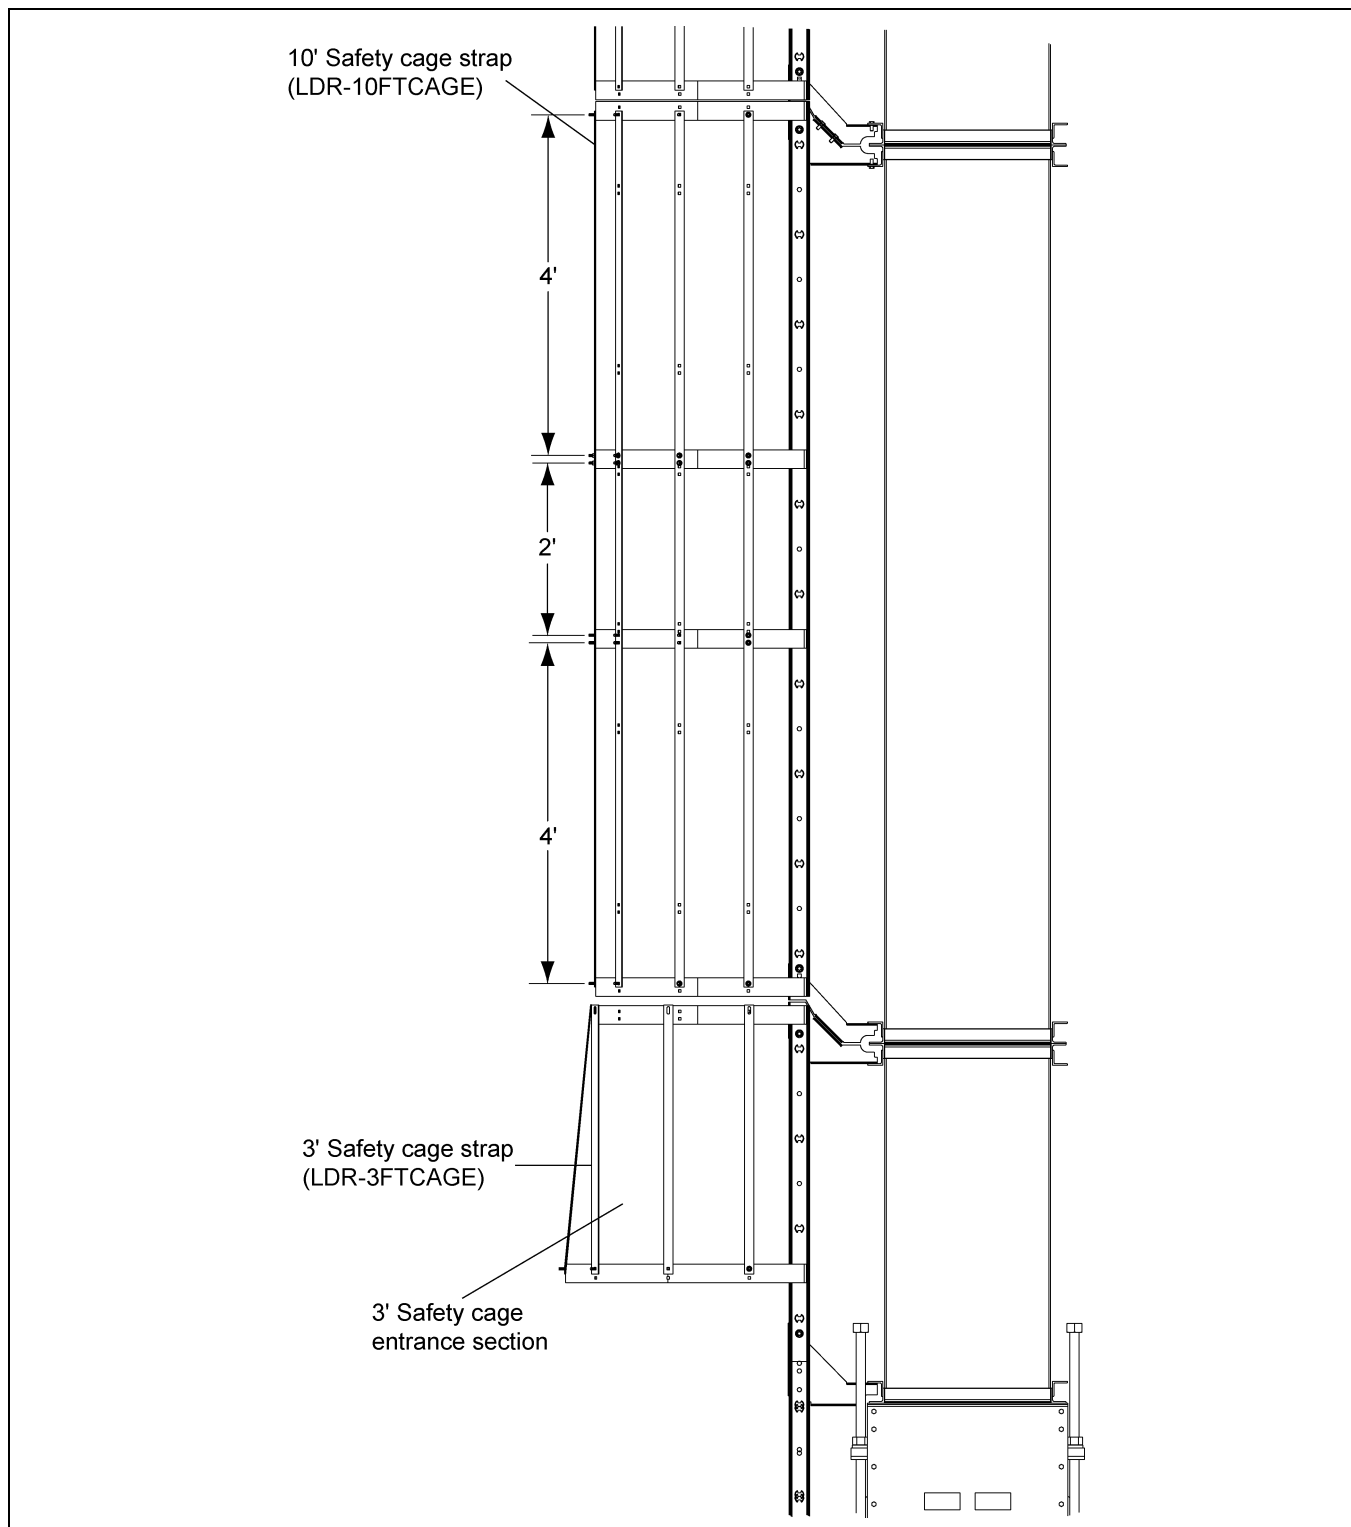

Figure 6S 10' Safety Cage Section
1. Locate safety cage hoops (LDR-BCKTBHP) along the ladder rails where the safety cage hoops will be installed. **NOTE:** *The end hoops of a 10' section are spaced 4' from the two (2) middle hoops, which are spaced 2' apart. See Figure 6S for spacing. (See Figure 6S.)*